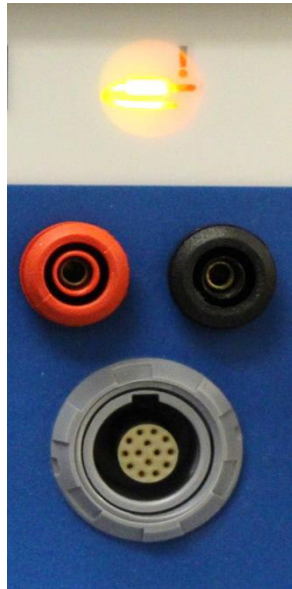

FIGURE 15: THERMOCOUPLE CONNECTIONS
6. The PROBE icon, seen above in Figure 15, will extinguish if the PROBE is functioning properly and the approximate room temperature will be displayed on the temperature display (typically 10 to 25° C [50°F to 77°F]). An example of this is shown in Figure 17.